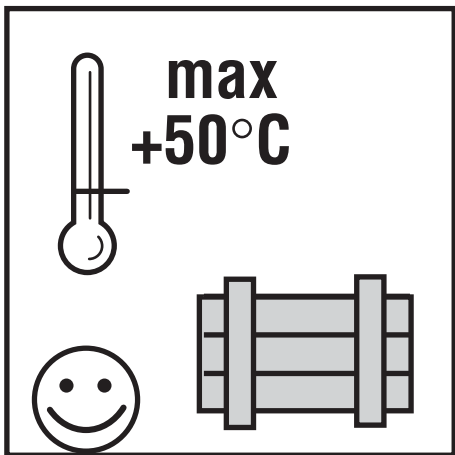

Fig.: 7
- Under no circumstances may the motor be stored at temperatures above 50°C since this can lead to filling liquid leakage and premature motor failure (fig. 7)